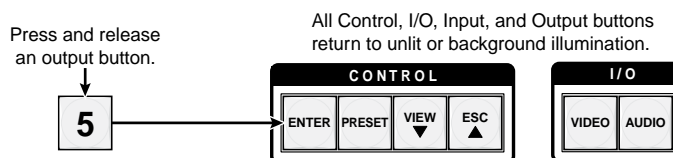

Figure 3-71 — Exit Serial Port and Audio/RS-232 Input Configuration mode
4. Press and release an output button to exit the *Serial Port and Audio/RS-232 Input Configuration* mode (figure 3-71).